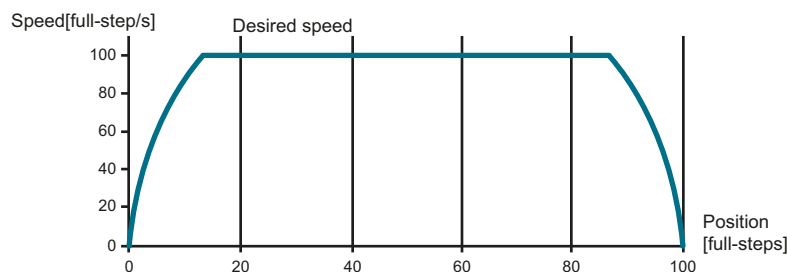

Figure 6. Acceleration and deceleration ramp
- The **Full-step Configuration** group contains speed and acceleration settings. Code for the acceleration and deceleration ramp is generated when the Acceleration property is set to a value greater than zero. Note that acceleration is always the same as deceleration. An example of an acceleration ramp is depicted in Figure 6.